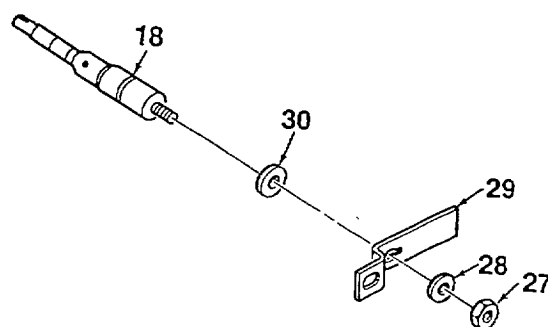

Figure 5-7. Speed Control and Primer
1. Install spacer ring (30, Figure 5-7) and acceleration lever (29) onto speed control eccentric shaft (18). Secure using nut (27) and washer (28).